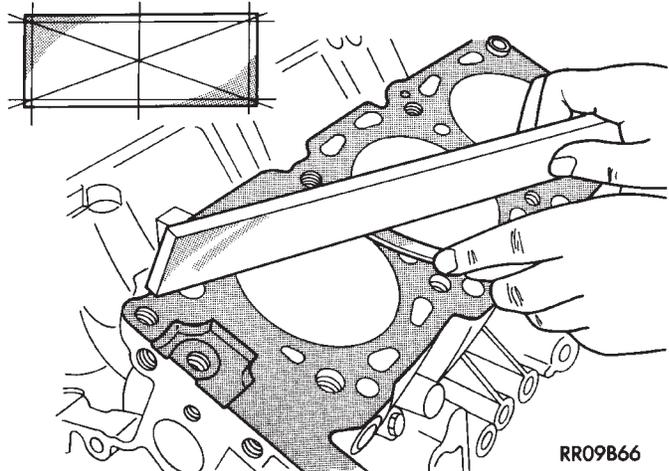

Fig. 16 Distortion Check
(2) Clean cylinder block and check top surface for distortion with a straight edge and thickness gauge (Fig. 16).
(3) Top surface must be flat within: